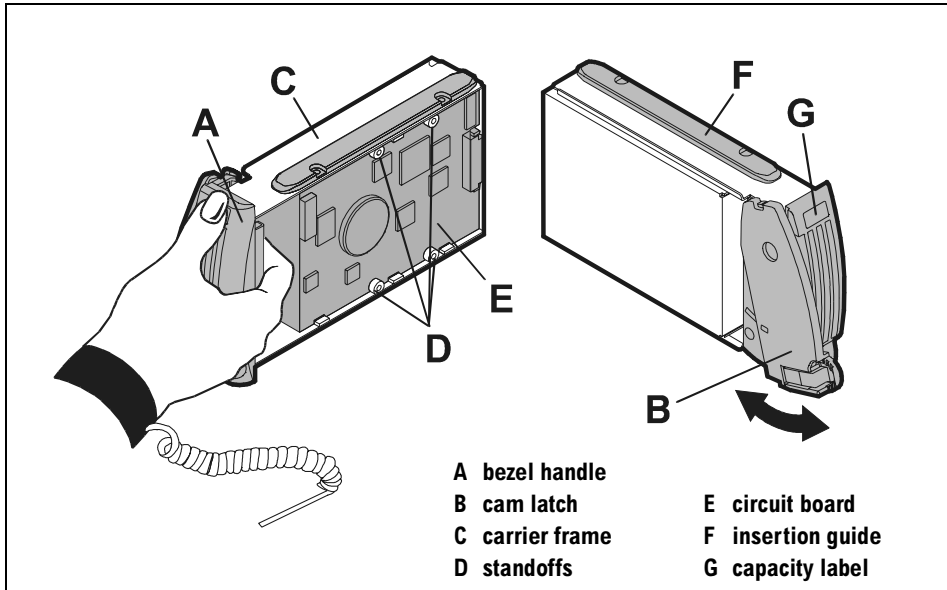

Figure 2 Disk
Disks, shown in Figure 2, are 3.5-inch Fibre Channel disks in a metal carrier. The open carrier design allows 10 Half Height (1.6 inch) disks to fit the width (19 inches) of a standard rack and meet cooling needs. Exposed disks require careful handling to avoid damage by breakage and static electricity, and to prevent personal harm by contact with hot surfaces and static electricity.
- Bezel-handle (A in Figure 2)
- Cam latch (B)
- Insertion guide (F)